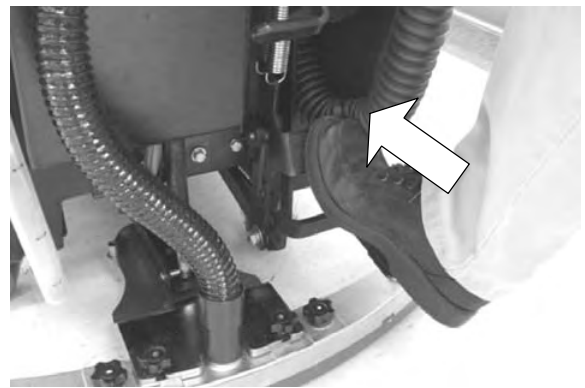

FIG. 18
3. Lower scrub head. Depress top brush lift foot pedal forward to lower (Figure 18).